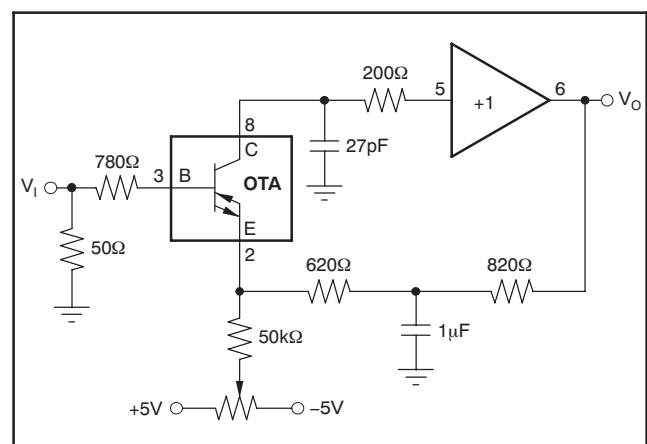

Figure 58. Integrator for ns-Pulses
One very interesting application using the OPA860 in physical measurement technology is an open-loop ns-integrator (shown in Figure 58) which can process pulses with an amplitude of $\pm 2.5\text{V}$, have a rise/fall time of as little as 2ns , and also have a pulse width of more than 8ns . The voltage-controlled current source charges the integration capacitor linearly according to Equation 7:
- Changed Figure 49—corrected equations..... - Changed Figure 58—corrected resistor value	16 22